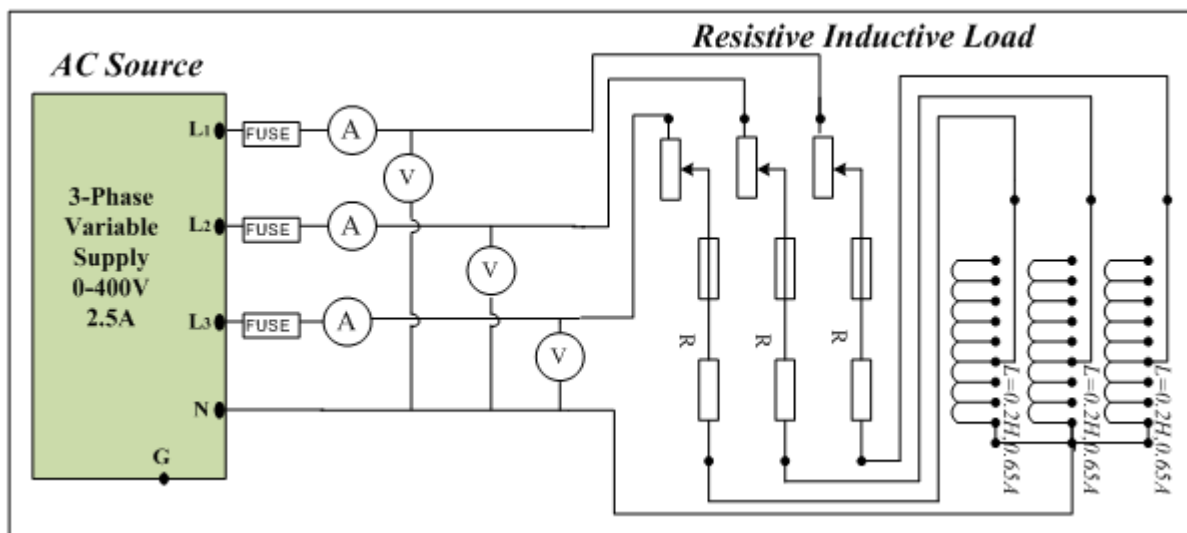

Figure 3 Y-Connected Resistive Inductive Load
3. Build circuit shown in Fig. 3 using *Multisim Electronics Workbench*.
8. Build the circuit of Fig. 3 with the hardwired components. Take the measurements of voltages, currents, power factor (from step 5) real power, reactive power and frequency then record them in Table 3 and table 4. Considering the Workbench results as the base, compute the percentage errors.
Table 3: Simulation and experimental results for Fig. 3